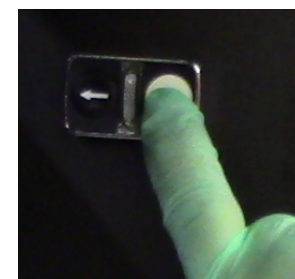

Figure 7-6 Feed button
5. Press the **Feed** button (Figure 7-6) to advance the rear feed roller until the unexposed portion is visible.